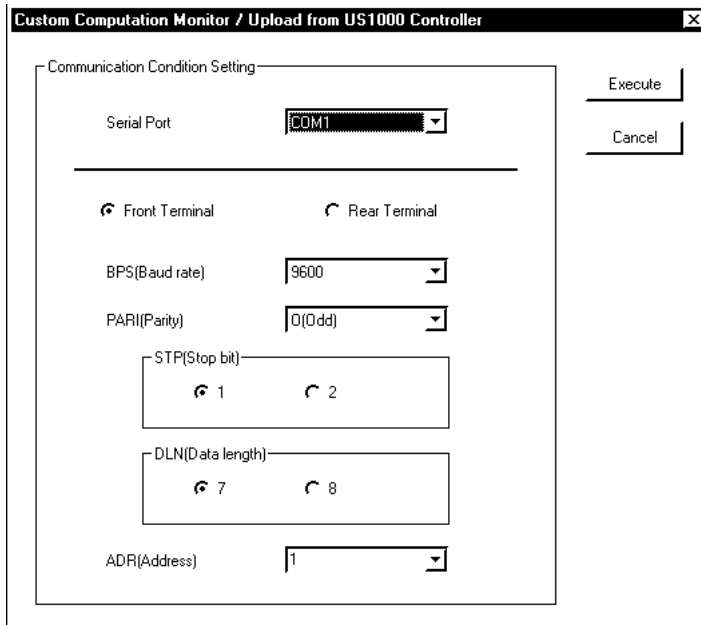

Figure 11.2.1 [Communication Condition Setting] Dialog Box
- ① From the tool menus, choose <Communication>, then <Custom Computation Monitor>, then <Input Block>. The [Communication Condition Setting] dialog box (Figure 11.2.1) appears.